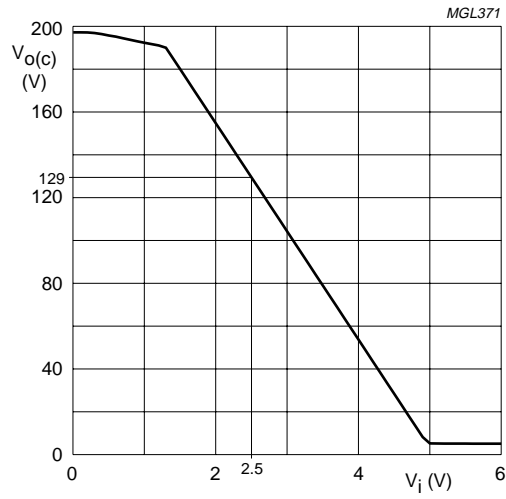

Fig.5 Typical DC-to-DC transfer of V_i to $V_{o(c)}$.
1. See also Fig.5 for the typical DC-to-DC transfer of V_i to $V_{o(c)}$.